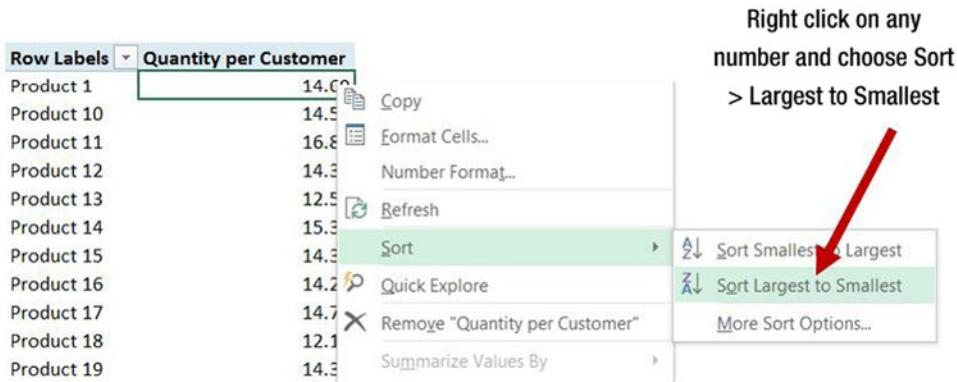

Figure 24-21. Sorting the pivot table by *Quantity per Customer* measure
4. Right-click any Quantity per Customer value and choose Sort ► Largest to Smallest. See Figure 24-21.